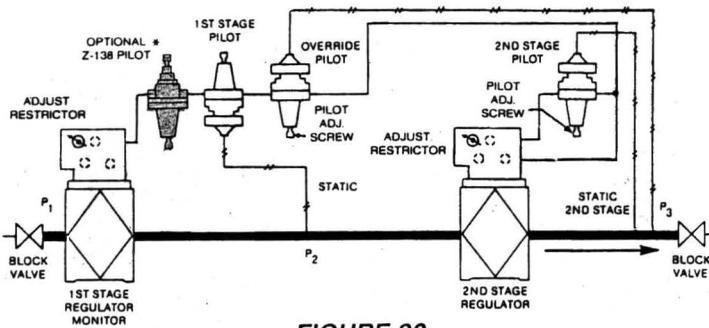

FIGURE 20
* 2. For increased inlet pressure applications a type Z-138 pilot can be added between the manifold and 1st stage pilot as shown by the grey pilot shown in Fig. 20.